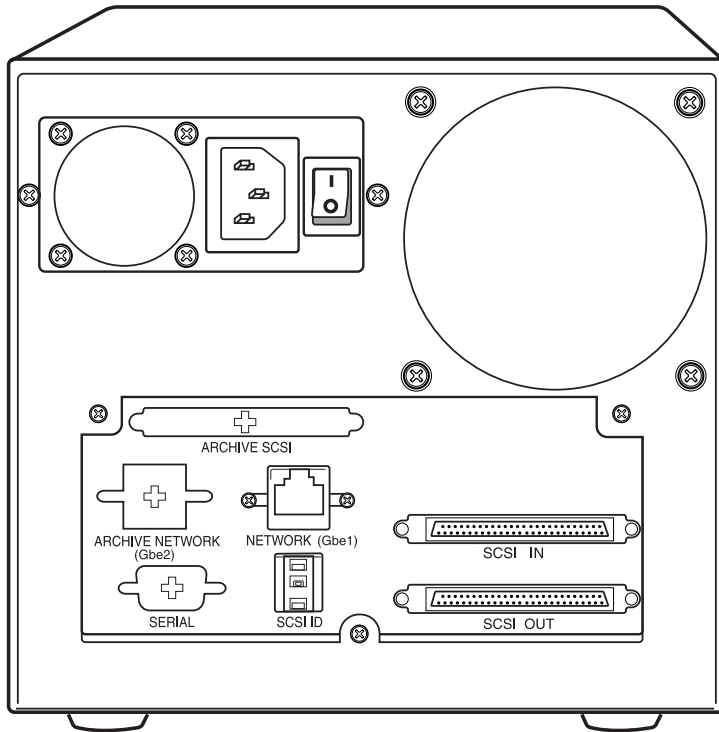

Figure 19. Back Panel of the Desktop CP 3100
2. Connect an LVD Male HD68 SCSI cable to the **SCSI IN** connector on the back panel of the desktop CP 3100 (see Figure 19 on page 37).
1. Connect an LVD Male HD68 SCSI cable to the **ARCHIVE SCSI** connector on the back panel of the desktop CP 3100 (see Figure 19 on page 37).
- If the CP 3100 is the last device in the SCSI chain, connect the supplied SCSI terminator to the **SCSI OUT** connector (lower connector) on the back panel (see Figure 19 on page 37).
1. Connect an Ethernet cable to the **NETWORK (Gbe1)** connector on the back panel of the CP 3100 (see Figure 19 on page 37).
2. Attach the power cord securely to the power receptacle on the back panel of the CP 3100 (see Figure 19 on page 37).
3. Set the Power switch on the CP 3100 back panel to the ON position. Facing the back of the CP 3100, the Power button is located to the right of the power receptacle (see Figure 19 on page 37).